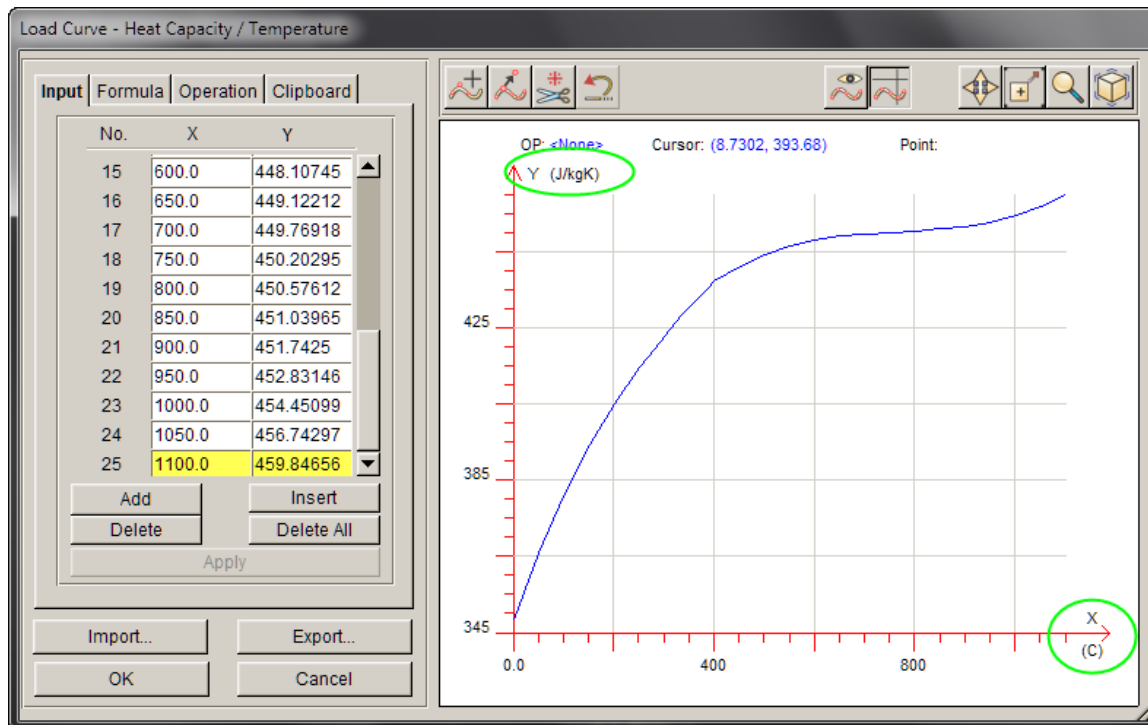

Figure 39
8. The file is imported. (Figure 39). (The unit of heat capacity here is **J/kgK**.)